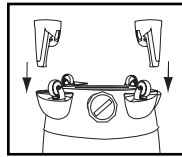

FIGURE 13
12. With tank drain facing you, attach hose holder A to caster foot A, and hose holder B to caster foot B. **FIGURE 13.**